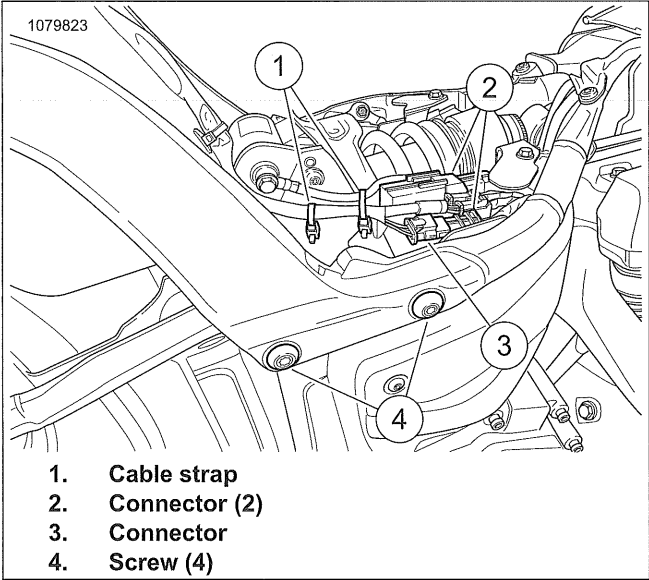

Figure 3-117. Rear Fender
- 1. See Figure 3-117. Disconnect connectors (2, 3).
- 2. Discard cable strap(s) (1).
- b. Remove fender screws (4) and washers from both sides.
- 1. See Figure 3-117. Install rear fender.
- b. Install screws (4) and washers. Tighten.